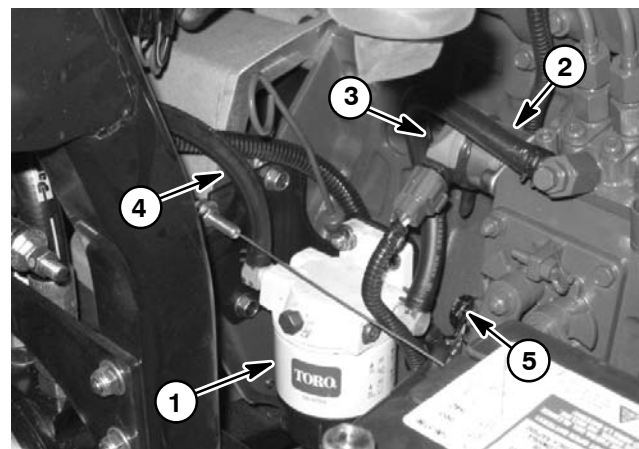
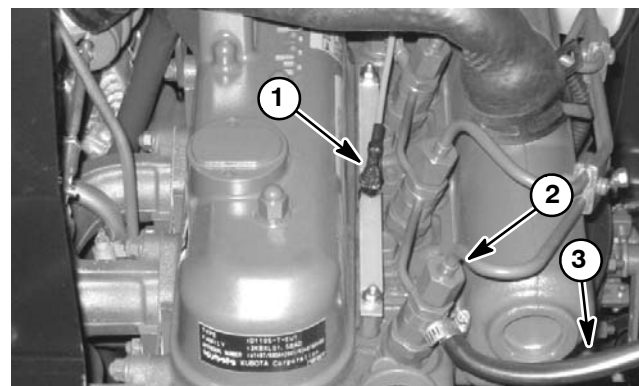

Figure 11
Figure 12
A. Negative battery cable, wire harness ground and fuel stop solenoid (Fig. 11).
B. Glow plug bus (Fig. 12).
11. Disconnect fuel supply hose at injector pump (Fig. 11). Disconnect return fuel hose from front injector nozzle (Fig. 12). Plug and position disconnected hoses to prevent fuel leakage.
15. Remove two (2) flange head screws that secure fuel/water separator bracket to engine. Remove bracket and separator from engine.
16. Remove six (6) flange head screws and two (2) socket head screws securing the flywheel housing to engine.
8. Secure flywheel housing and fuel/water separator bracket to engine endplate with eight (8) flange head screws and two (2) socket head screws.
9. Secure engine to the engine mounts attached to the frame with two (2) cap screws, snubbing washers and lock nuts.
10. Connect fuel hoses to the fuel/water separator (Fig. 11). Connect return fuel hose to front injector nozzle (Fig. 12).
- A. Negative battery cable, wire harness ground and fuel stop solenoid (Fig. 11).
- B. Glow plug bus (Fig. 12).